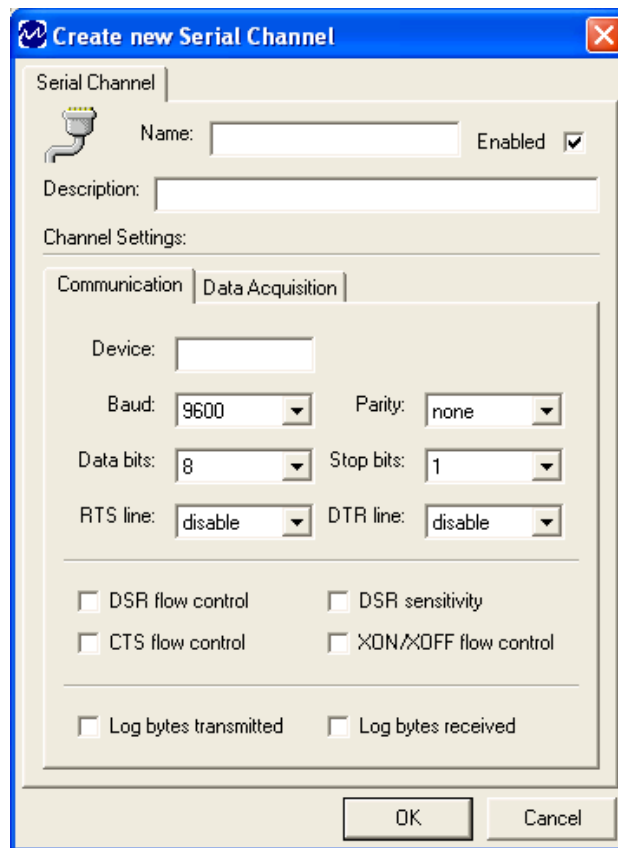

Figure 26 - Create New Serial Channel Window - Communication Tab
The **Create New** window (Figure 26) displays the settings available when creating a **Serial Channel** object.
The **Create New Serial Channel – Communication** tab (Figure 26) includes those settings for device, baud rate, parity, etc.
5. The **Create New** window appears (Figure 26).